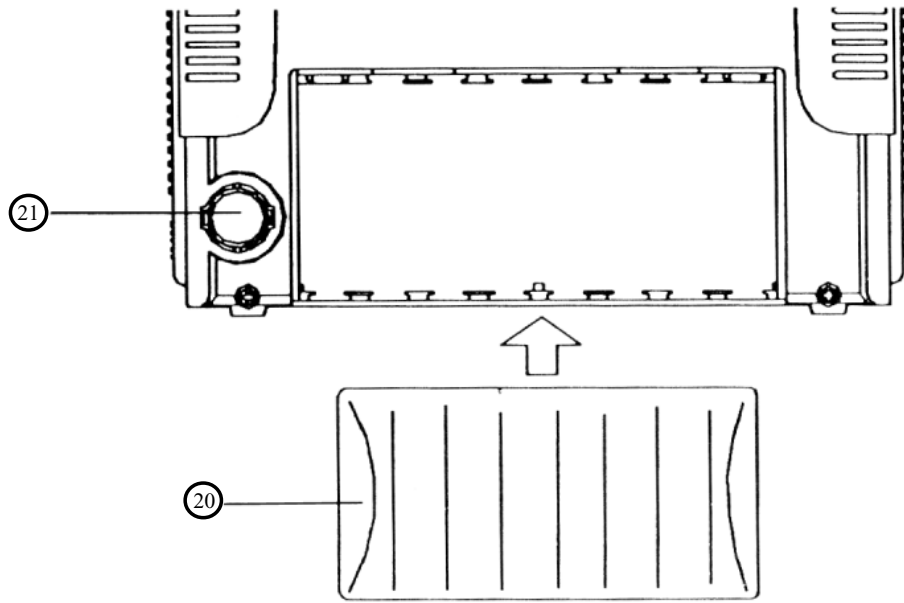

fig 2
- Connect the servos, batteries and switch harness in accordance with fig 2. Carefully check to ensure that all connectors are properly seated.